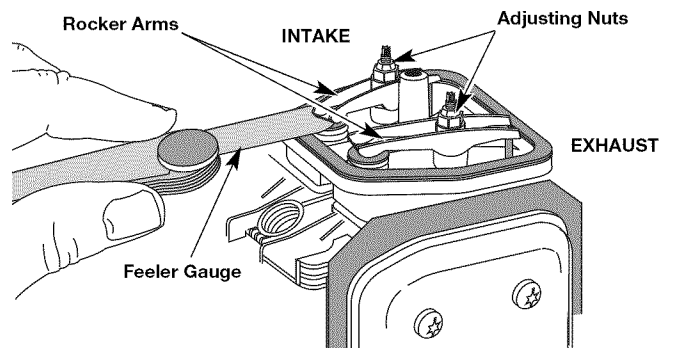

Fig. 35
- The piston is at the top of its travel. Look in the spark plug hole to view the piston (Fig. 35)
7. Slide the feeler gauge between the rocker arm and the top of each valve stem. Measure the clearance between the valve stem and rocker arm (Fig. 35 & 36). Measure both the intake and exhaust valves.
The recommended clearance for both intake and exhaust is .003 – .006 in. (.076 – 0.152 mm). Use a standard automotive .005 in. (0.127 mm) feeler gauge. The feeler gauge should slide between the rocker arm and valve stem with a slight amount of resistance, without binding. See Figures 35 and 36.